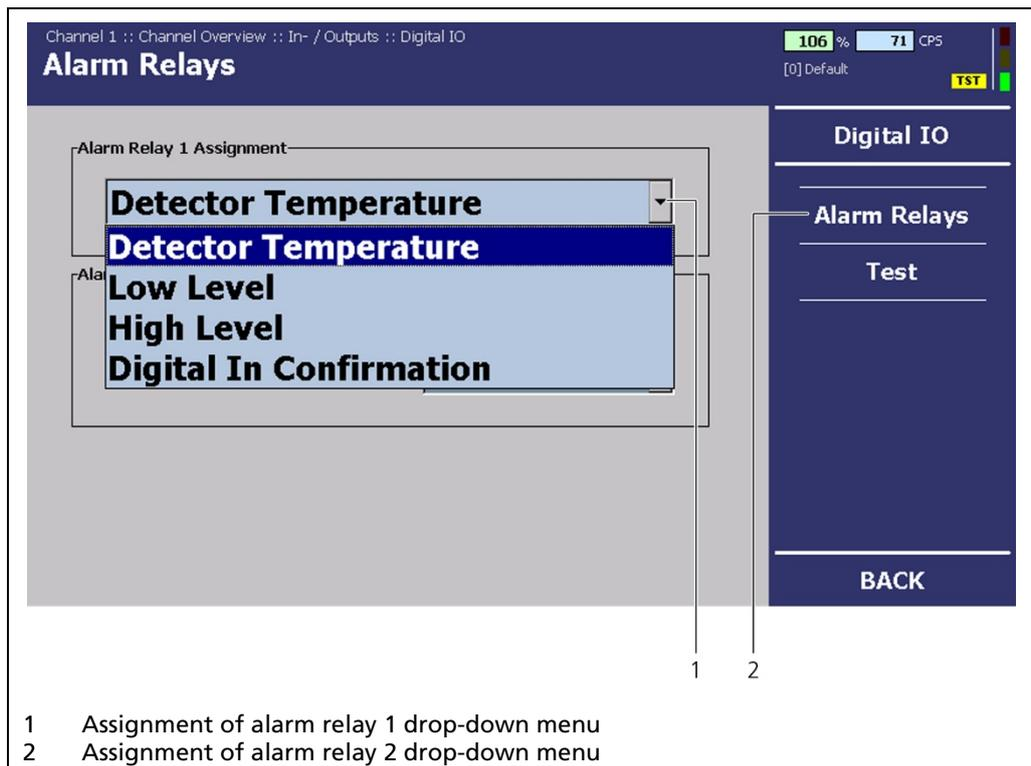

Fig. 69 "Channel Overview" Menu, In-/Outputs - Digital IO (Alarm Relay)
The digital inputs cannot be configured. Fig. 69 only informs of the switched state.
In the "Channel Overview" menu, click on **In/Outputs | Digital IO | Test** (Fig. 69, Item 3).
1. Click on the **"Error Relay" drop-down menu**, to switch the error relay manually (Fig. 69, Item 1).
2. Click on the **"Alarm Relay 1" drop-down menu** menu to switch the alarm relay manually (Fig. 69, Item 1).
3. Click on the **"Alarm Relay 2" drop-down menu** menu to switch the alarm relay manually (Fig. 69, Item 1).
4. Click on **<End Test Mode>** (Fig. 69, Item 2) if you would like to end the test mode.